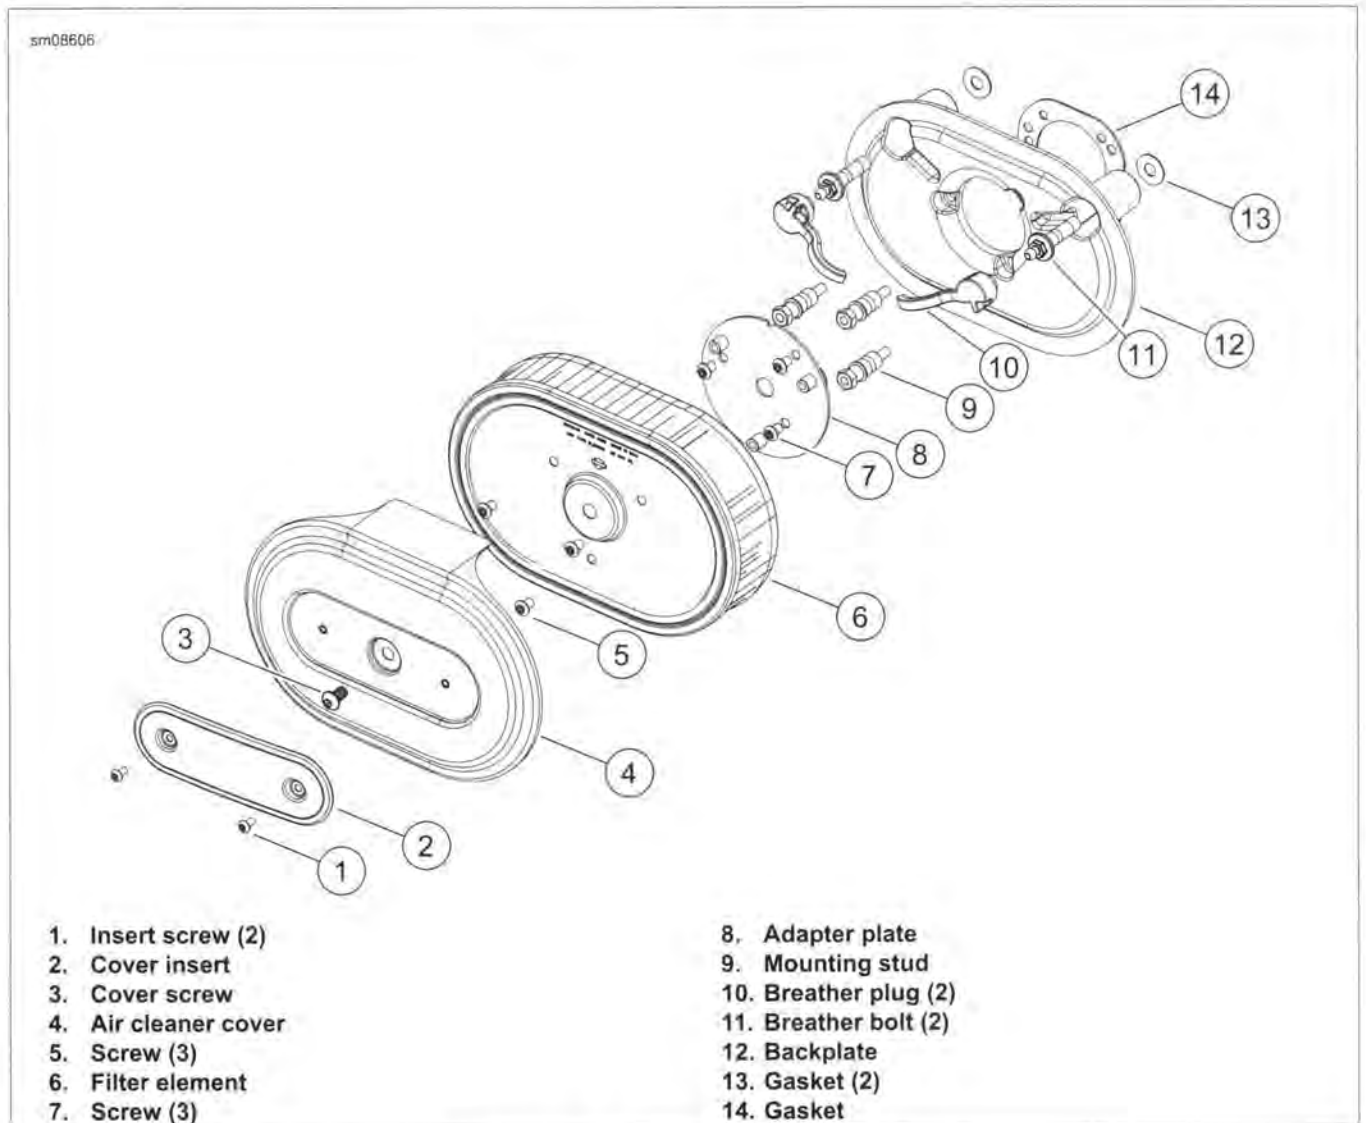

Figure 4-3. Air Cleaner Assembly, HO103
1. See Figure 4-3. Remove insert screws (1) and cover insert (2).
2. Remove cover screw (3) and air cleaner cover (4).
3. Remove screws (5) and filter element (6).
1. See Figure 4-3. Position **new** gaskets (13 and 14) on backplate (12).
3. Install, but do not tighten mounting studs (9).
4. Loosely install breather bolts (11) into cylinder heads.
7. Install breather plugs (10). Position plugs with plug ends pointing toward throttle body opening.
8. Install adapter plate (8) and screws (7). Tighten to 55-60 **in-lbs** (5.2-6.8 Nm).
9. Install filter element (6) onto adapter plate.
- a. Apply LOCTITE 243 MEDIUM STRENGTH THREADLOCKER AND SEALANT (blue) to screws (5).